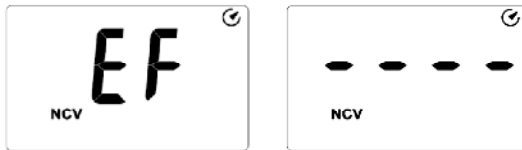

Figure 10
**9. NCV measurement (see figure 10)**